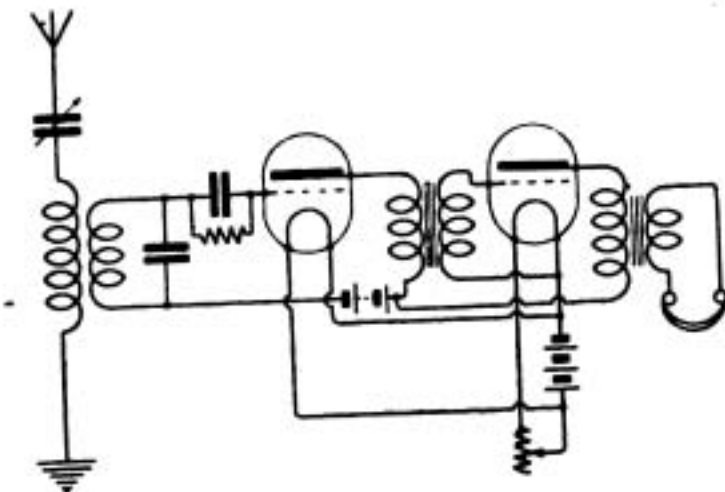
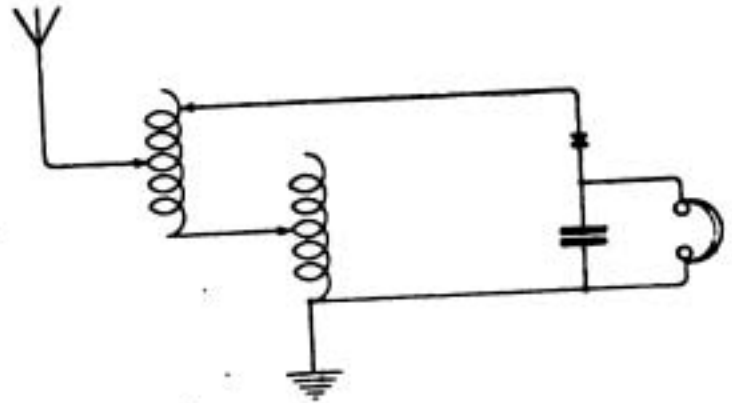

Fig. 1.
Fig. 2.
(3) See Fig. 1.
(4) No advantage except protection from shocks, this at the expense of signal strength.
F.W. (Manchester) asks (1) For criticism of a diagram for a crystal receiver. (2) For criticism of a diagram for a proposed aerial. (3) What stations or wavelengths should he be able to pick up. (4) Can he receive C.W., spark and telephony on his set.
(1) Your connections are wrong. Rearrange as in Fig. 2.